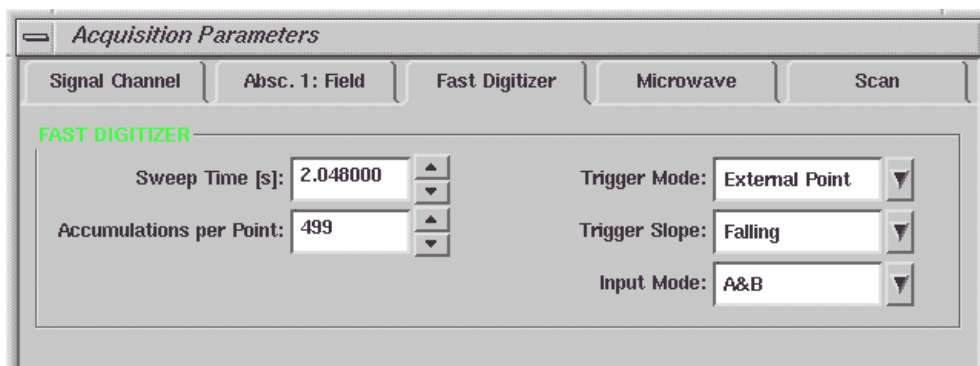

Figure 14-25 Setting up the ADF for quadrature detection.
2. **Set up the parameters.** Open the Parameter dialog box and click the Fast Digitizer tab. Select External Sweep or External Point in the Trigger Mode drop-down list. Select the appropriate Trigger Slope for your trigger pulse. Select A&B in the Input Mode. (See Figure 14-25.) The signal from the Channel A is stored as the real part of the spectrum while the signal from Channel B is stored as the imaginary part of the spectrum. You can view each of them by clicking the Re/Im button in the Tool bar.